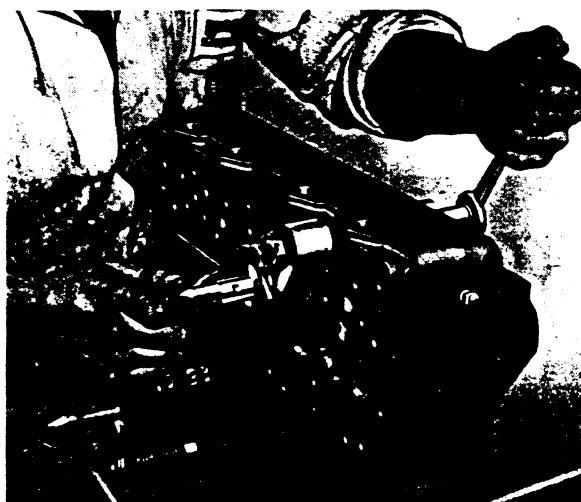

FIG. 120.
2. Mount cylinder head in soft jawed vice and fit guide FT.136/4 loosely over the new pre-combustion chamber. Using pilot FT.136/5, register the bore of the guide concentrically with the chamber orifice and then secure firmly in position, Fig. 120.